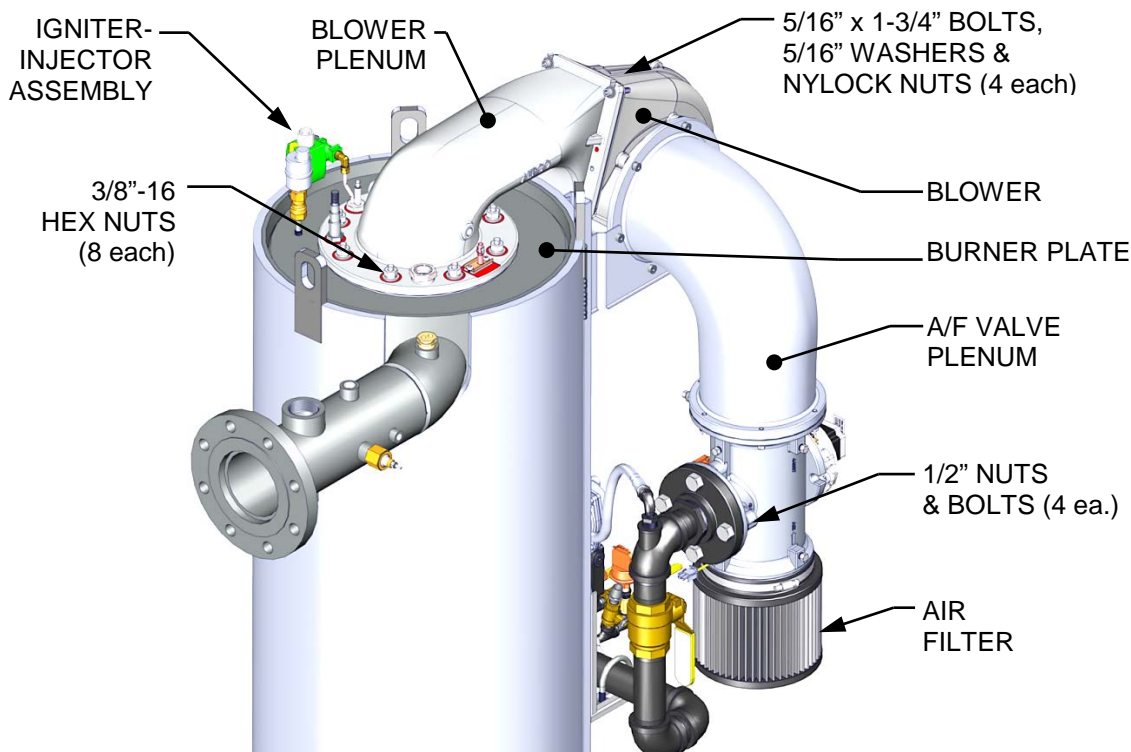
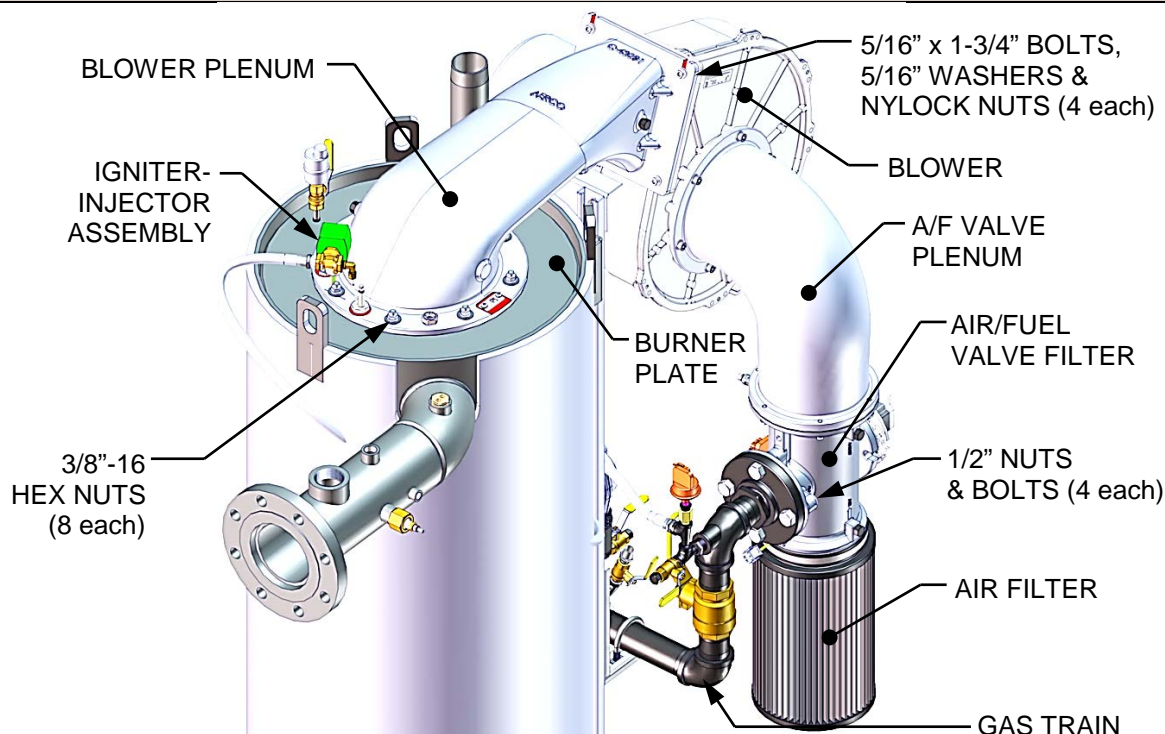

Figure 4-5a: BMK 1500/2000 Burner Assembly Mounting Details
Figure 4-5c: BMK 2500/3000 Burner Assembly Mounting Details
9. Loosen and remove the four 5/16 x 1-3/4" bolts, washers, and nuts from the blower plenum where it attaches to the blower. See Figure 4-5a & 4-5b (BMK 1500/2000) or Figure 4-5c & 4-5d (BMK 2500/3000).
11. Remove the eight (8) 3/8-16 nuts, using a 9/16" wrench, attaching the blower plenum to the burner. See Figure 4-5a & 4-5b (BMK 1500/2000) or Figure 4-5c & 4-5d (BMK 2500/3000).